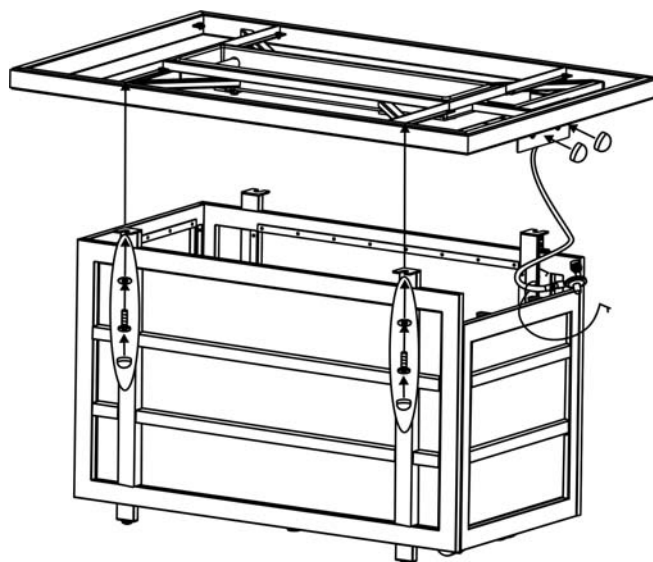

Figure 5
5. With the help of another person, carefully place the firepit table rim onto the firepit base. After making any necessary adjustments to the alignment of the table rim and the assembled base, use four 1/4"x15 mm bolts and washers as shown in Figure 5. Guide the bolts through the holes in the side panel brackets, into the predrilled holes in the table rim. **Hand tighten only.**